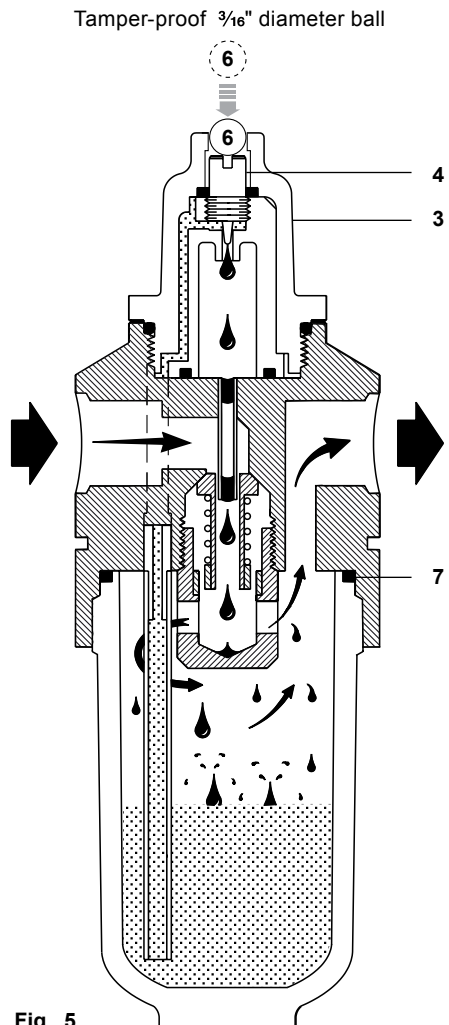

Fig. 5
As standard, each lubricator is supplied with a 3/16" diameter tamper-proof ball (6) that may be pressed or tapped into the top of the sight dome adjustment area after the oil rate has been set (See Figure 5). This prevents any further adjustment by unauthorized personnel.